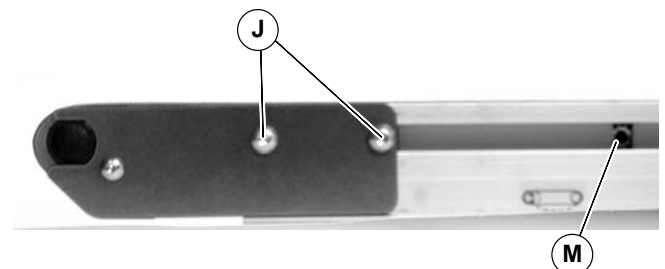

Figure 6
6. With a 5 mm hex-key wrench, rotate pinion gear (M of Figure 6) to tension the conveyor belt. Tighten two screws (J) on both sides of conveyor to 80 in-lb (9 Nm). For proper tensioning, refer to “Conveyor Belt Tensioning” on page 9.